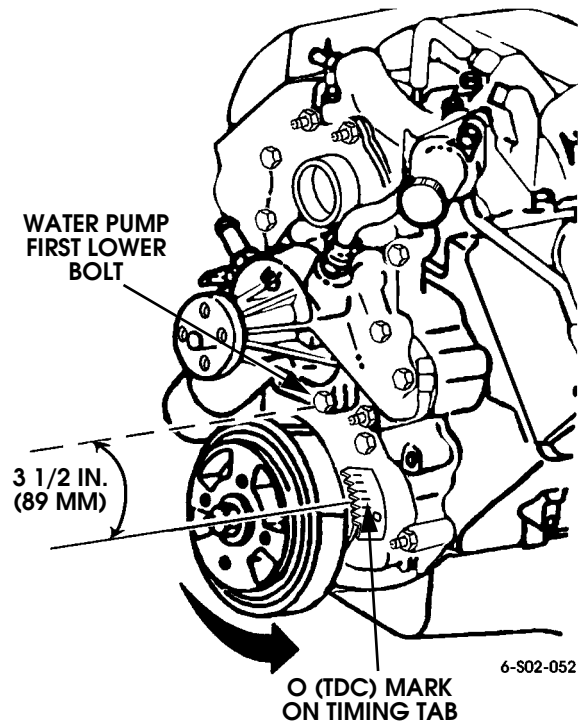

Figure 2-51: Crankshaft Indexing Position
- c. Index crankshaft by rotating it counterclockwise an additional 3-1/2 inches (89 mm). At this point, mark on damper will be roughly aligned with first lower water pump bolt (Figure 2-51).
- b. Rotate crankshaft counterclockwise and align mark on torsional damper with “O” (TDC) mark on front cover timing tab (Figure 2-51).